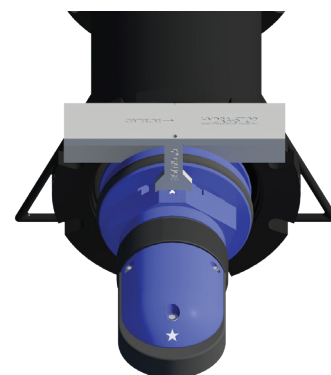

FIGURE 52
3.0.13) Set the curved portion of the alignment gauge within the lock pin groove of the valve cartridge. Slide the valve cartridge towards the insertion housing until the alignment gauge touches the insertion housing. The two (2) gauge pins will seat in the top two holes of the insertion housing (see Figure 52).